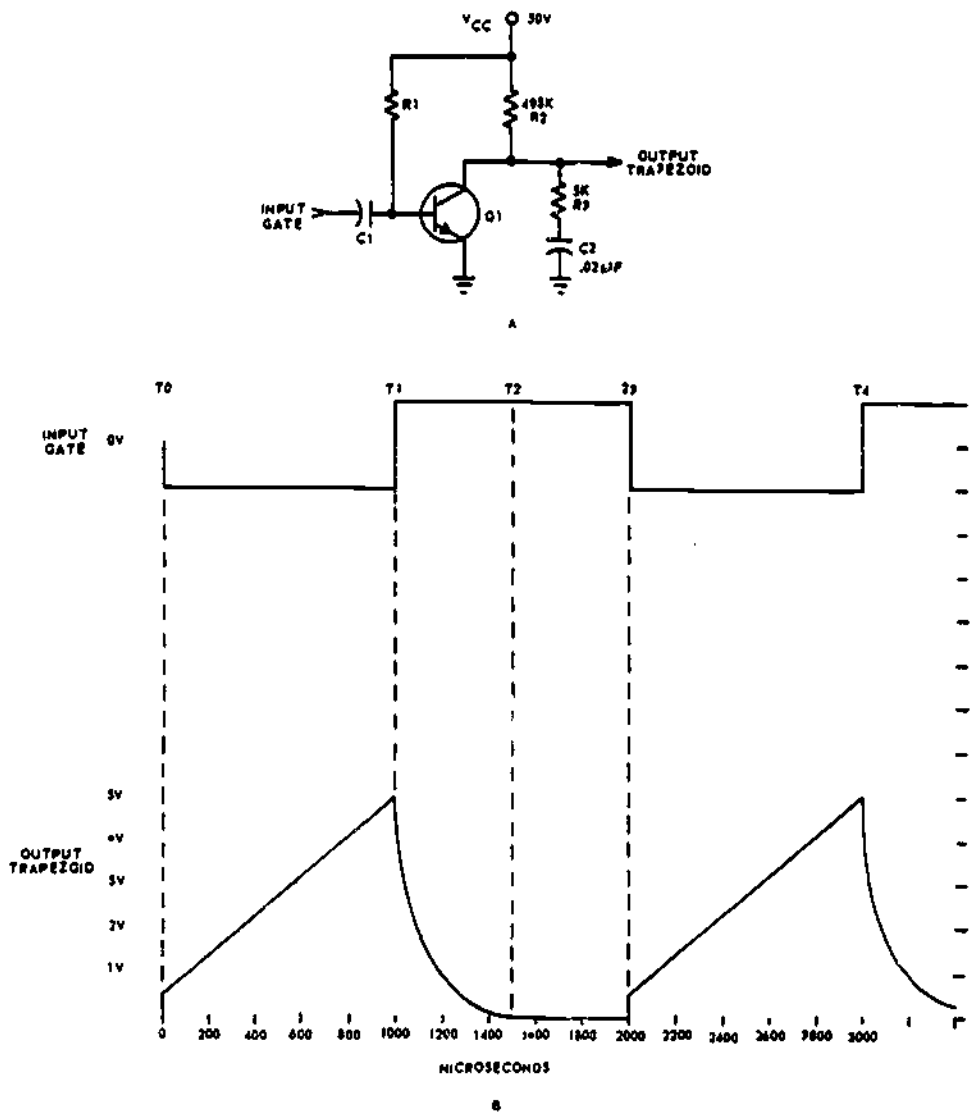

Figure 6-13. Trapezoidal Generator
6-50. Referring again to figure 6-13, from T0 to T1, C2 begins charging toward 50 volts through R2 and R3. The time constant for this circuit is 10 milliseconds. If the input gate is 1,000 microseconds, the capacitor can charge for only 10 percent of one TC, and the sawtooth part of the trapezoid wave will be linear.
6-53. Linearity of the trapezoidal waveform, produced by the circuit in figure 6-13 will be dependent on two factors: GATE LENGTH and the TIME CONSTANT (TC) of the RC circuit. Recall that these are the same factors that controlled LINEARITY in the Sawtooth Generator. The formula developed earlier will still remain true and enable us to determine what effect these factors will have on LINEARITY.